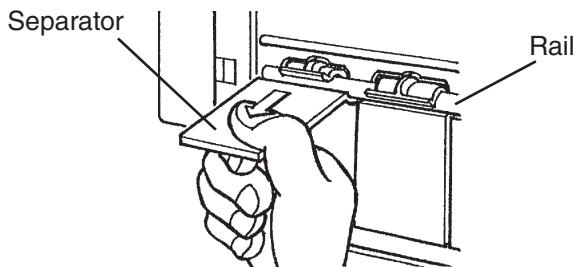

Fig. 48
16) Hook each separator onto the rail, then pull it hard towards you until it locks into place. See Fig. 48.